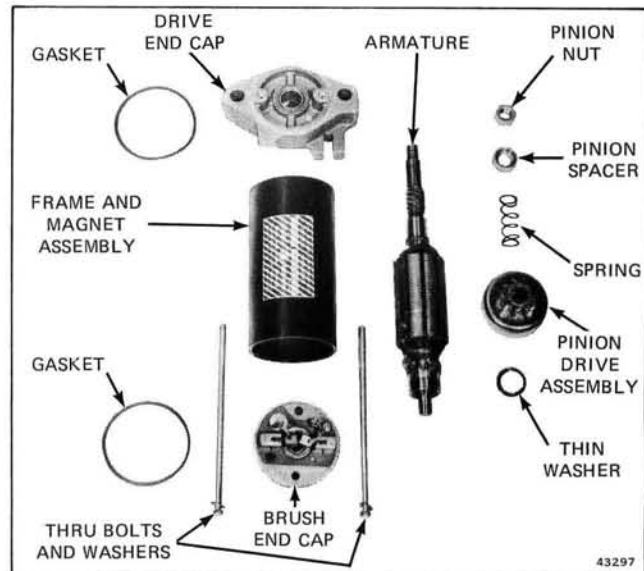

Figure 7-5. Starter Components
b. Remove pinion nut, spacer, spring, pinion gear, thin washer and drive end cap from armature. See Figure 7-5.